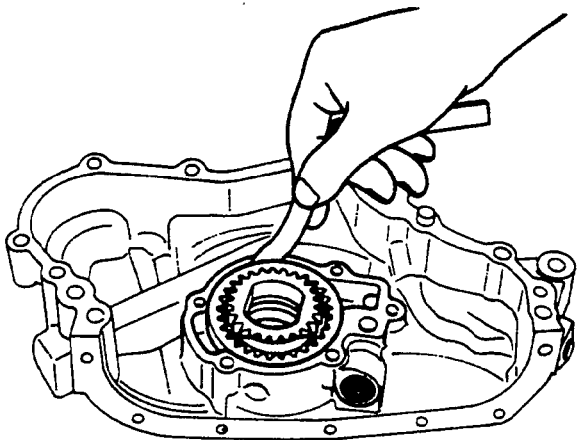

FIGURE 9-28. CHECKING CLEARANCE BETWEEN OUTER GEAR AND FRONT CASE
2. Check the clearance between the outer gear outside circumference and front case (Figure 9-28).